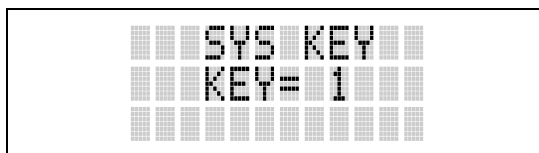
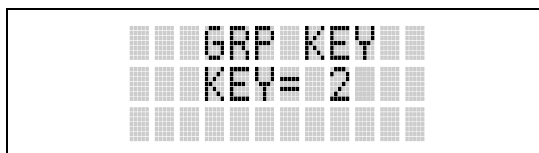

Figure 9-8: System Encryption Key Display
Figure 9-9: Group/Channel Encryption Key Display
3. Then use the  or  button to toggle between displaying the system key (Figure 9-8) or the group/channel key (Figure 9-9).